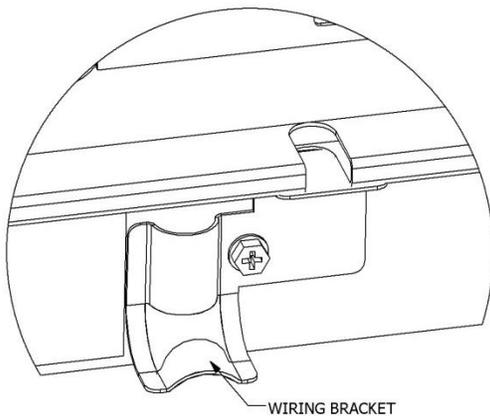

FIG. 2 - FAN WITHOUT LIGHT
5. If fan is not equipped with a lighted grille this bracket is to be installed as seen in FIG.2. Ensure that the bracket covers the notch in the frame.